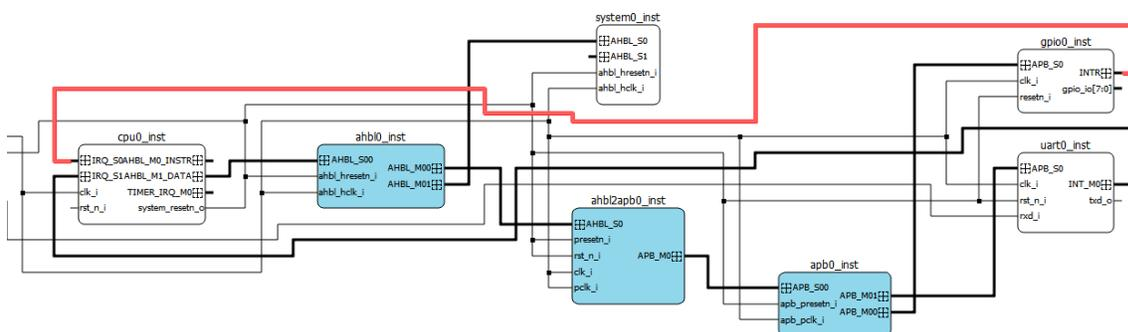

Figure 2.54. Interface Connection on Other Instances Connecting back to CPU in Schematic View
- If the last instance connected has the same bus interface type as that of the CPU instance, then it connects back to CPU instance (see Figure 2.54 and Figure 2.55). In Figure 2.56 and Figure 2.57, you can see gpio0\_inst.INTR and cpu0\_inst.IRQ\_S0 have the bus type: Interrupt.